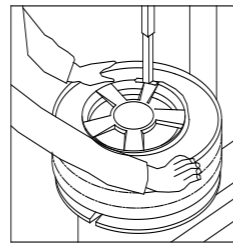

Fig.08
See Fig.08 for the tyre mounting:
- If there is a tube, place on rim and repeat the above steps to mount the upper side of the tyre. (See Fig.08).